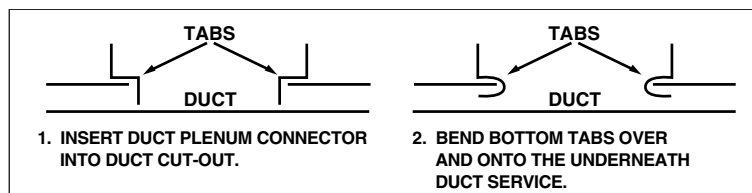

Figure 10. Installation of Duct Connector
- Bend bottom tabs under and up tightly against the supply air duct (See Figure 10).